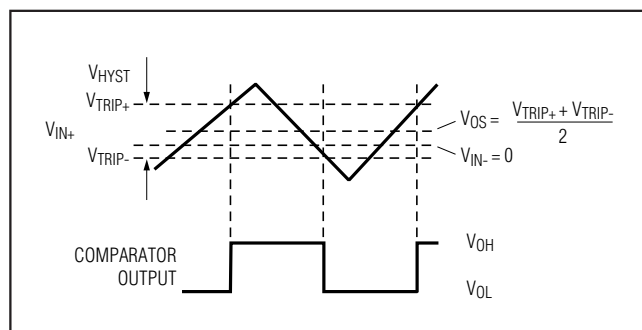

Figure 1. Input and Output Waveforms, Noninverting Input Varied
**Note 3:**  $V_{OS}$  is defined as the mean of trip points. The trip points are the extremities of the differential input voltage required to make the comparator output change state (Figure 1).
**Note 4:** The difference between the upper and lower trip points is equal to the width of the input-referred hysteresis zone (Figure 1).
**Note 5:** Propagation Delay is guaranteed by design. For low overdrive conditions,  $V_{TRIP}$  (Figure 1) is added to the overdrive.
High-speed comparators can oscillate in the linear operating region because of noise or undesired parasitic feedback. This tends to occur when the voltage on one input is equal to or very close to the voltage on the other input. The MAX976/MAX978/MAX998 have internal hysteresis to counter parasitic effects and noise. The hysteresis in a comparator creates two trip points: one for the rising input voltage and one for the falling input voltage (Figure 1). The difference between the trip points is the hysteresis. When the comparator input voltages are equal, the hysteresis effectively causes one comparator input voltage to move quickly past the other, taking the input out of the region where oscillation occurs.
Figure 1 illustrates the case where IN- has a fixed voltage applied and IN+ is varied. If the inputs were reversed, the figure would be the same, except with an inverted output.